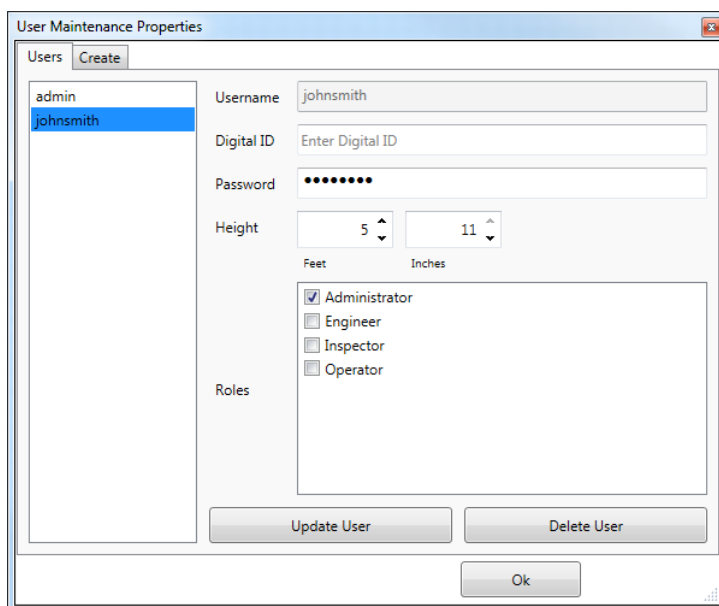

Figure 3.1 User Maintenance Properties Window
You define user permissions in Weld Sequencer by assigning a User Role (Figure 3.1 on page 3.1) to the user account. These permissions allow (or don't allow) users to access certain areas of the software. Currently, the following actions are restricted by the user's role:
4. Click User Maintenance in the top toolbar.	The User Maintenance Properties window opens (Figure 3.1 on page 3.1).
To update a user account simply highlight the account on the **Users** tab, make your changes and click the **Update User** button. You can click the **Delete User** button to remove a user account from Weld Sequencer. See Figure 3.1 on page 3.1.